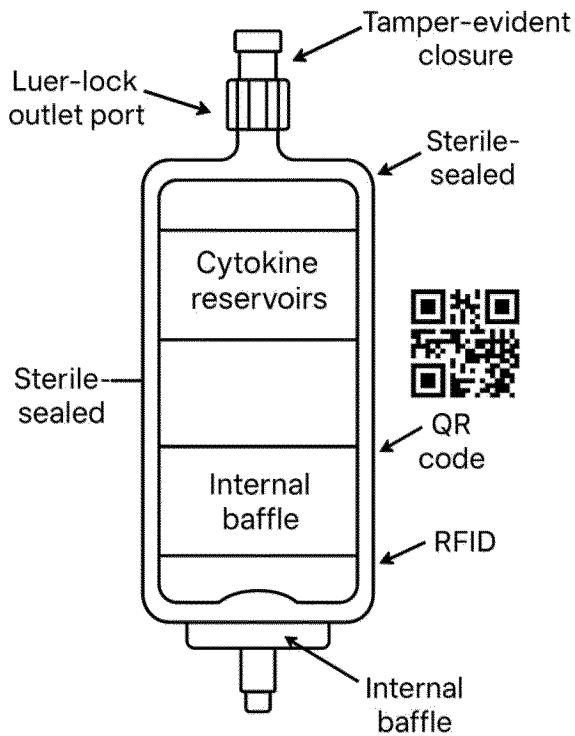

Figure 3
- **FIGURE 3:** Lysate Personalization and Antigen Timing Flow